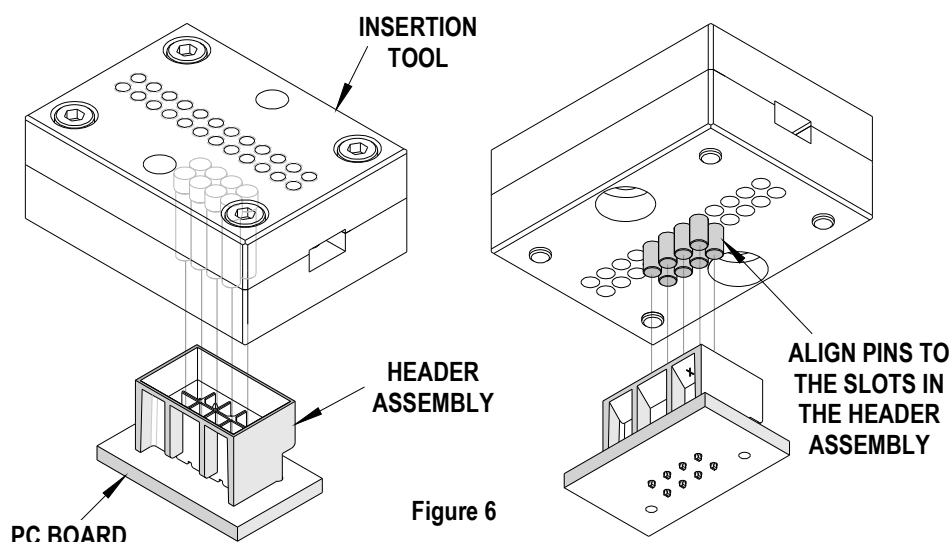

Figure 6
6. The tool alignment pins that support the longer connector pins must be raised into the pin holder. To do this, loosen the M2.5 x 5mm long setscrew above the pin. Allow the setscrew to come up to the top of the backing plate (but not above the surface.). See Figure 6.
7. Repeat step 6 for the remaining MFB L positions. The “standard” pin positions must have the M2.5 x 5mm long setscrew tightened (gently) against the alignment pin. See Figure 6.
11. Place the insertion tool on top of the header aligning the pins in the slots of the header assembly. See Figure 6.